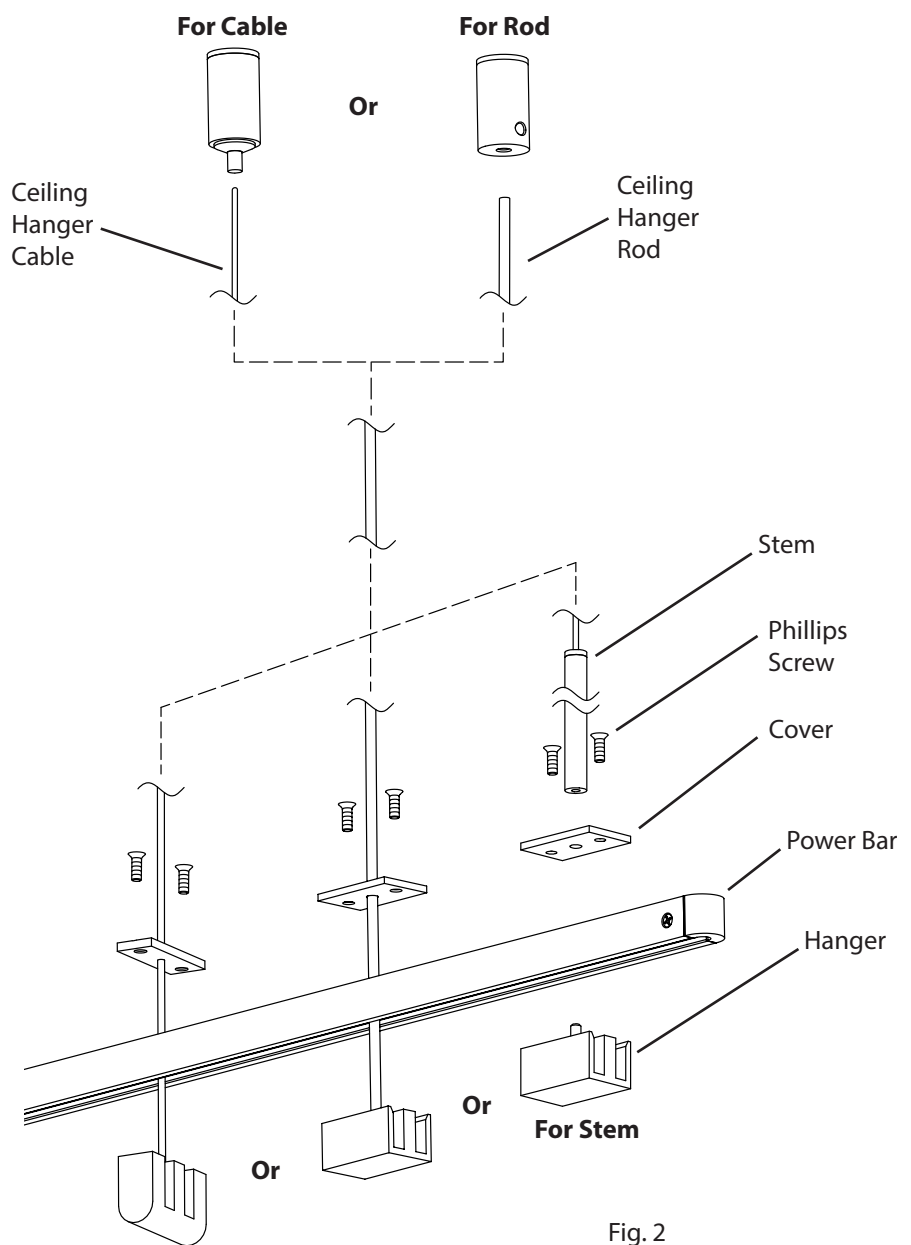

Fig. 2
- b. For Cable Hanger: Insert **Cable** into Post, then adjust to the desired length: to shorten, push the Cable up; to lengthen, push in the **Plunger** while pulling down on the cable, release the Plunger to lock. Cut off the excess cable where it exits the Post (Fig. 2).